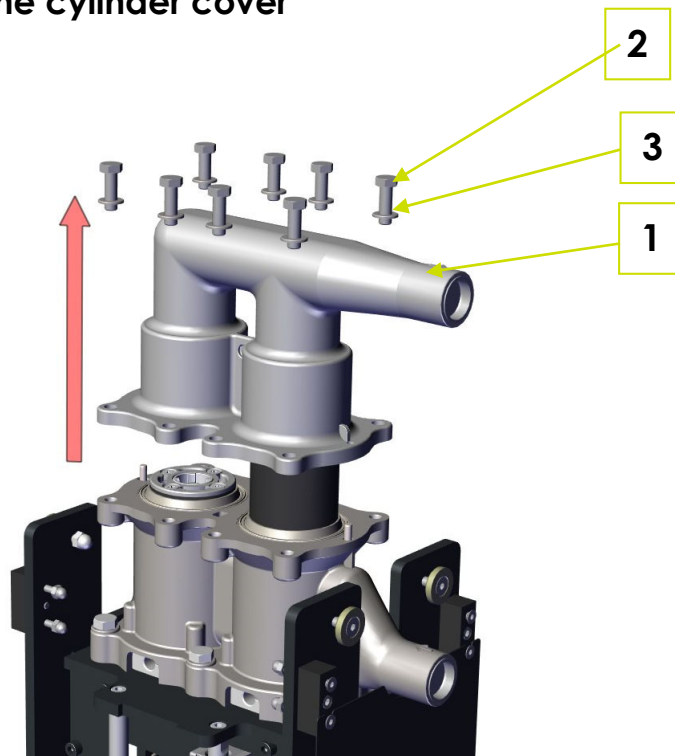

Fig. 5-2: Dismounting the cylinder cover
1. Unscrew all hexagon screws M10x30 (2) with a 17 mm ring spanner.
2. Take off the cylinder cover (1) upward in the direction of the arrow (Fig. 5-2: Dismounting the cylinder cover).